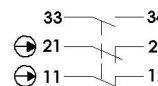

Fig.1
- IMPORTANT:** The shaft must be secured using at least 2 fixing screws (grub type) and after final checking secured permanently by drilling and fixing with a spirol pin. See Fig.1 opposite: